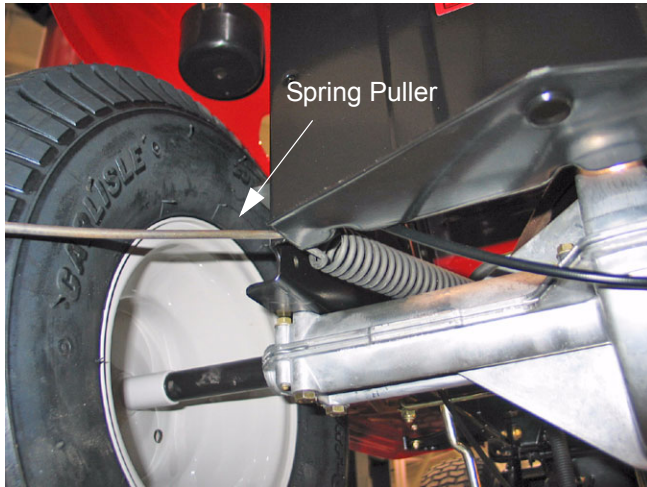

Figure 36
- 9.2. Using a spring puller or length of starter cord, remove the large spring attached between the variable speed idler arm and the rear of the tractor frame. See Figure 36.